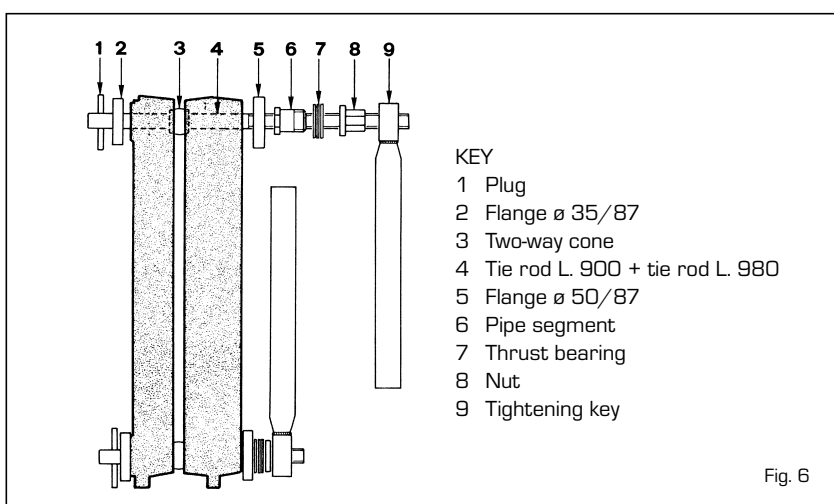

Fig. 6
- Assemble the heating elements using the pair of tie rods supplied assembled with their accessories, code 6050900 (fig. 6), exerting pressure on the upper hub and on the lower hub simultaneously. In the event that the elements should not move forward in parallel during this operation, introduce the chisel into the tighter part and force the two parts to be joined into parallel. The two elements are properly joined when their outer edges come into contact.